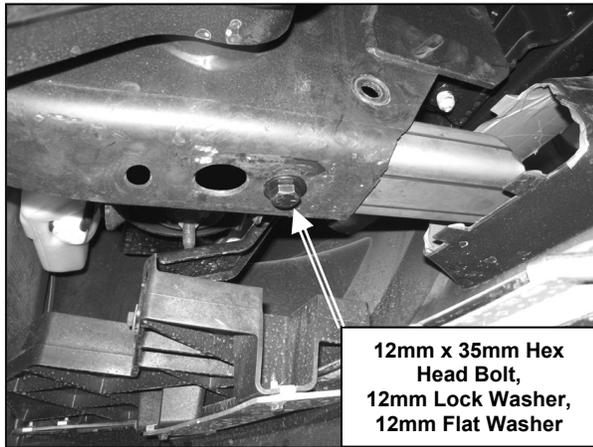

Figure 2
- 5.** Align holes on the Mounting Brackets with holes on the frame. Partially thread (1) 12mm x 35mm Hex Head Bolt, (1) 12mm Lock Washer, and (1) 12mm Flat Washer through factory front hole on the frame and into welded nut on the Mounting Bracket (Figure 2). Do not tighten at this time.
- 6.** Insert (1) 12mm Nut Plate through larger center hole on the frame and onto rear factory hole. Align Nut Plate with rear factory hole.
- 7.** Secure rear side of Mounting Bracket by inserting (1) 12mm x 35mm Hex Head Bolt, (1) 12mm Lock Washer, and (1) 12mm Flat Washer through rear factory hole and into Nut Plate. Do not tighten at this time.
- 9.** Position Bull Bar on the inner side of Mounting Brackets. Attach Bull Bar to Mounting Brackets using the included (4) 12mm x 30mm Hex Head Bolts, (4) 12mm Nylock Nuts, and (8) 12mm Flat Washers. Do not tighten at this time.